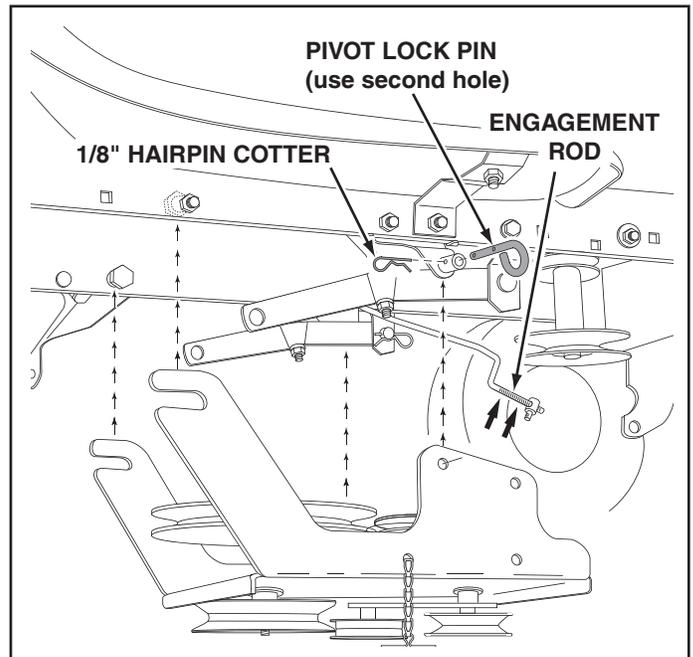

FIGURE 12 RIGHT SIDE VIEW
5. Be sure to lift up the front end of the engagement rod (as shown in figure 12) when performing the next operation. You can temporarily support the rod using a rubber band tied to the engine pulley keeper.
6. Attach the clutch/idler assembly to the tractor frame as follows. Hook the assembly's notched arms onto the two shoulder bolts you assembled to the inside of the tractor frame. Lift the front of the assembly and attach it to the R.H. and L.H. hanger brackets using two pivot lock pins and 1/8" hairpin cotters. See figure 12.